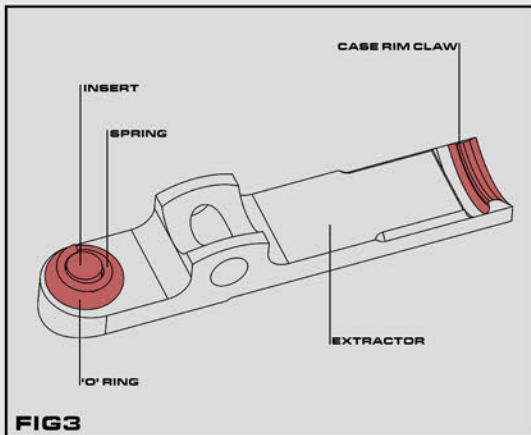

FIG3
3. CAREFULLY INSPECT THE EXTRACTOR AND EXTRACTOR SPRING, CHECK THE EXTRACTOR FOR DAMAGE IF THE EDGE THAT ENGAGES WITH THE CARTRIDGE RIM IS CHIPPED IT SHOULD BE REPLACED. CHECK THAT THE SPRING, INSERT & 'O' RING ARE PRESENT AND ASSEMBLED CORRECTLY. CLEAN OFF ANY FOULING FROM ALL PARTS, FIG3.